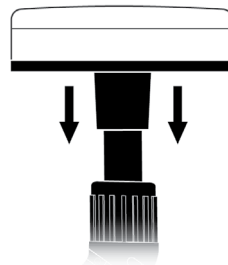

FIGURE 6
1. Place Scrub Pad over tip of Steam Jet Nozzle, and firmly press it on to Steam Jet Nozzle as far as possible (FIGURE 6). This will help to prevent steam leakage.